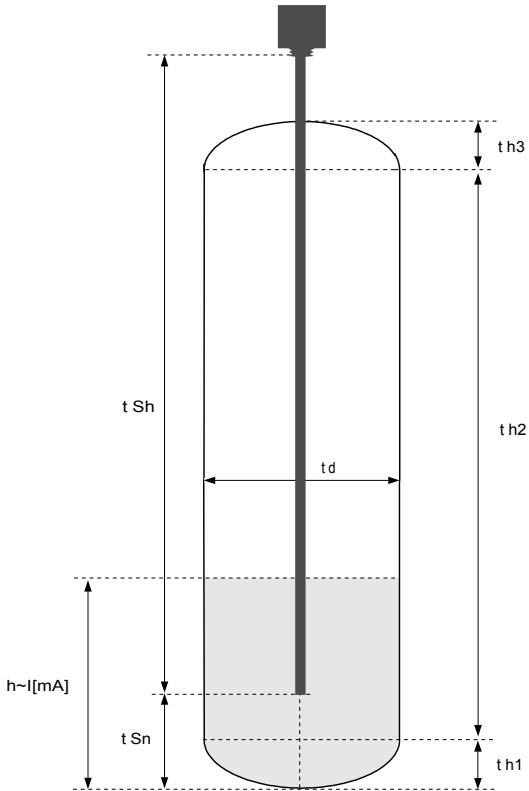
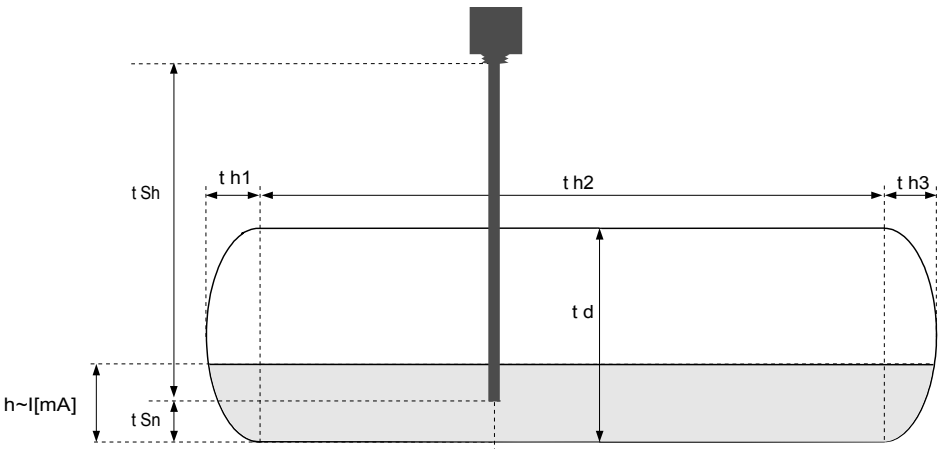

Figure 7.1 Parameters of cylindrical tank in vertical position.
Figure 7.2 Parameters of cylindrical tank in horizontal position.
**„t h1"**, **„t h2"**, **„t h3"**, **„t d"** - the parameters defining shape of cylindrical tank (Figure 7.1 and Figure 7.2).
„**t Sn**”, „**t Sh**” - parameters defining the length and position of the sensor used to measure level of liquids, gases or solids in the tank (Figure 7.1, 7.2).